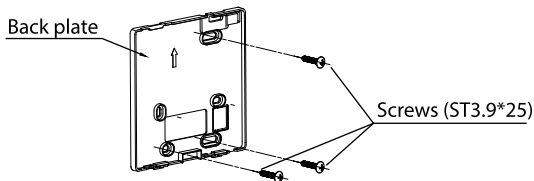

Figure 3.
- Fasten the back plate on the wall with the 3 screws (ST3.9*25) and plugs (Figure 3) provided.